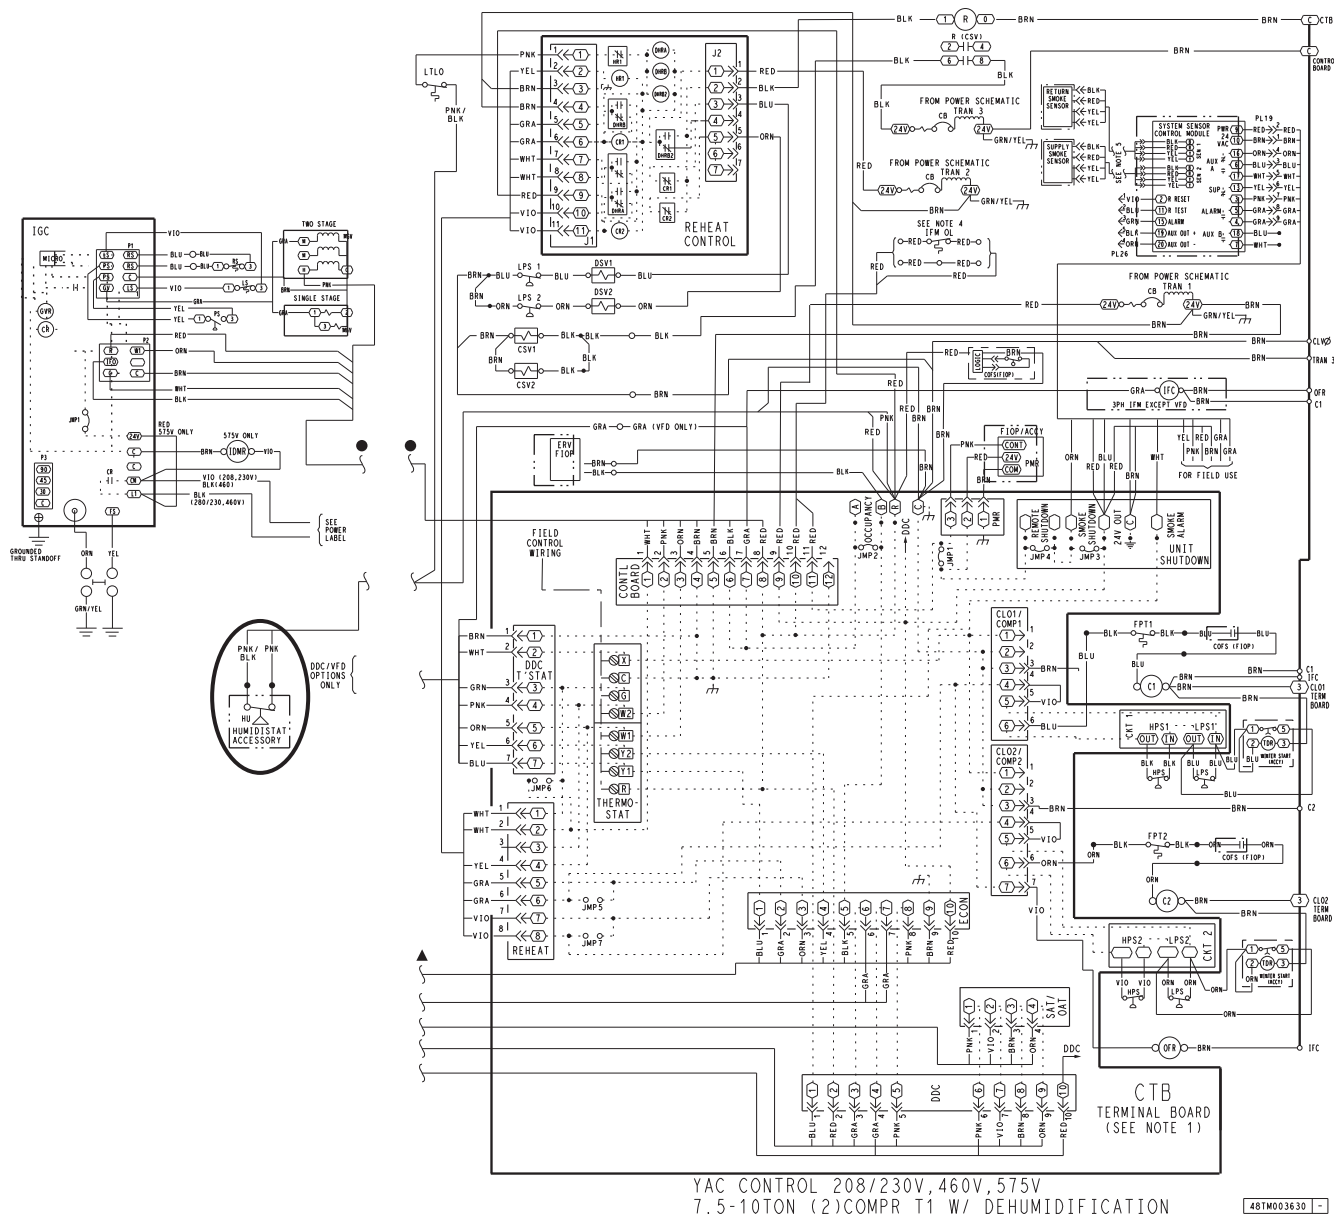

Fig. 58 — RGS089-150, Typical Hot Gas Re-Heat System Humidistat Wiring
The Hot Gas Re-Heat dehumidification system requires a field-supplied and installed space relative humidity control device. This device may be a separate humidistat control (contact closes on rise in space RH above control setpoint) or a combination thermostat-humidistat control device with isolated contact set for dehumidification control, see Fig. 58 and 59. The humidistat is normally used in applications where a temperature control is already provided (such as a third-party Building Management System).
3. Use wire nuts to connect humidistat cable to two PINK leads in the low-voltage wiring as shown in Fig. 58.